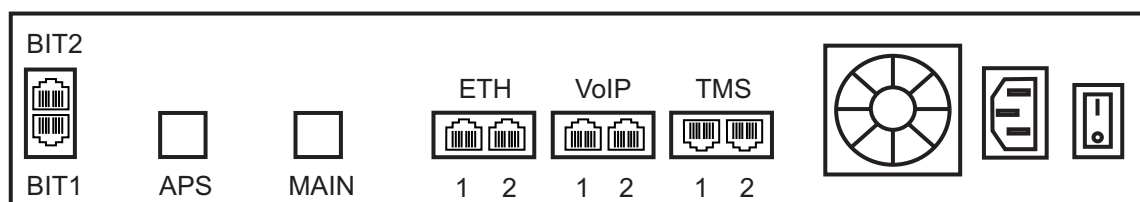

Figure 2.10 Optical Interface to the PSTN
A TMP6400, with one main and one backup OC3 or STM-1 port enables connection to OC3/STM-1 lines. See figure 2.10 on page 21. Refer to table 2.2 on page 21 for a listing of optical interfaces. The default OC3/STM-1 connection is SMF, intermediate reach, (SFP-OC3-IR1) 1312 NM with LC type connectors.
1. Connect a fiber optic cable between the Main port and OC3/STM-1 line, as shown in figure 2.10 on page 21.